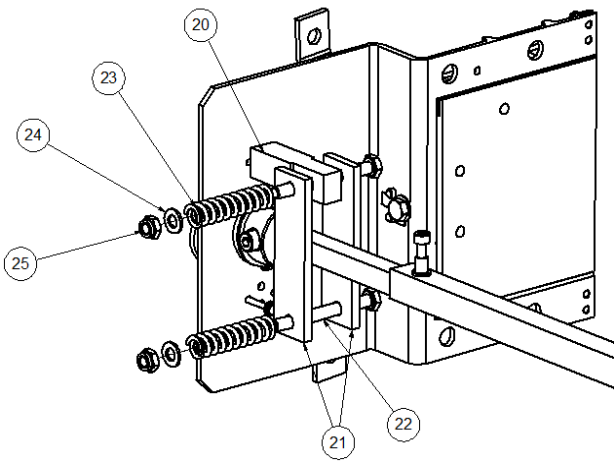
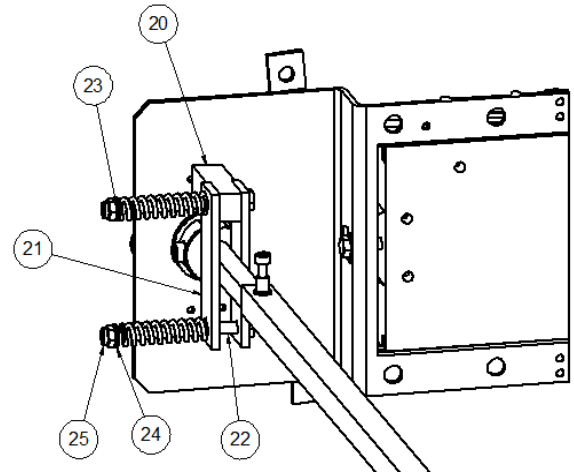

Figure 15: Installation of the springs of the tensor system
Figure 16: Final layout of the system
Next, the other DIN 931 M8 X 100 bolt (22) is sent through the free drill holes on the axle supports and through the spring (23), as shown in the Figure 15. Finally, the assembly is completed by a DIN 125 M8 washer (24) and a DIN 985 M8 lock nut (25), Figure 16.